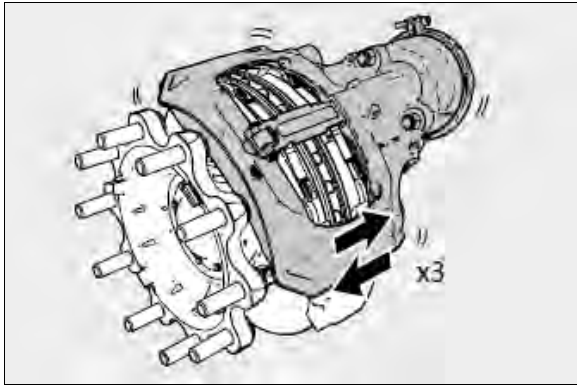

FIGURE 37: PUSH CALIPER THREE TIMES IN AXIAL DIRECTION
6. Push and pull caliper three times in axial direction to assess any existing air gap (see Figure 37). If no movement is possible, clean the disc brake and if necessary, replace the bearings. Once movement is obtained, continue as follows: